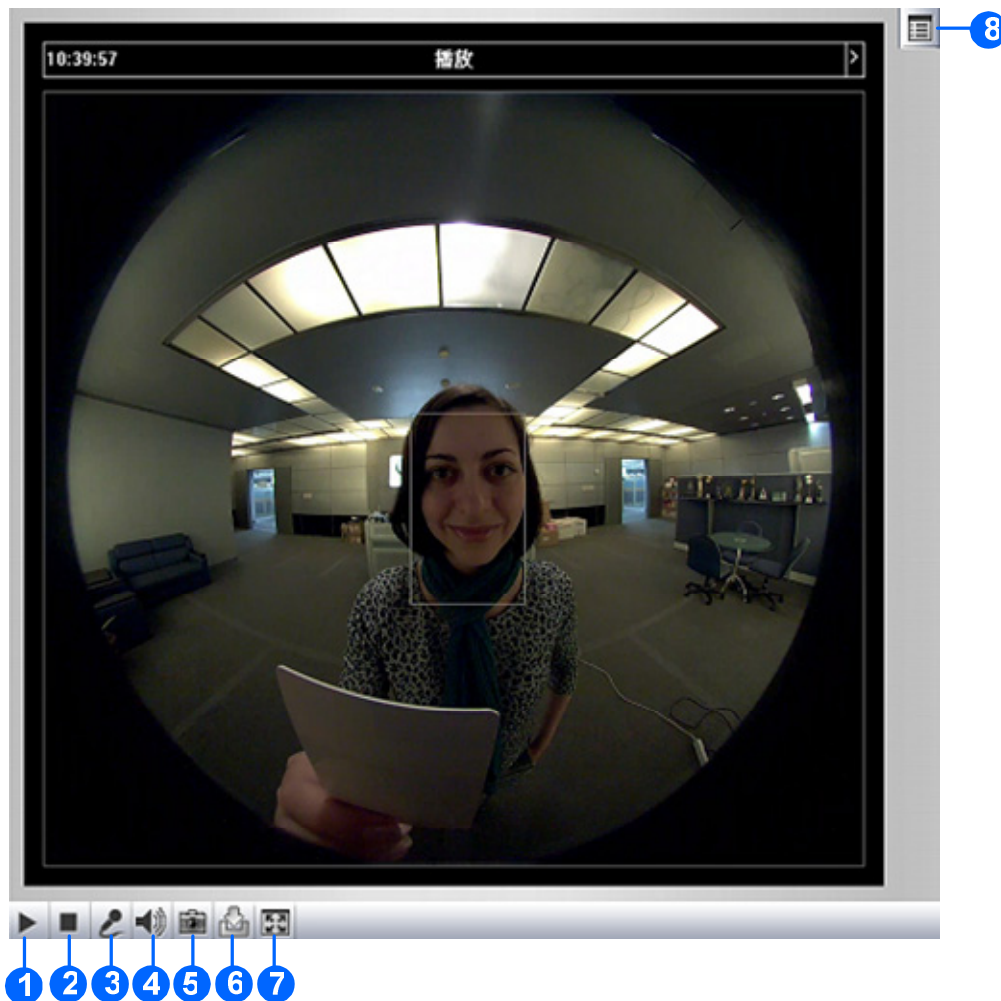

Figure 4-3
1. Click the **Snapshot** button (No. 5, Figure 4-3). The Save As dialog box appears.
1. Click the **File Save** button (No. 6, Figure 4-3). The Save As dialog box appears.
4. To stop recording, click the **Stop** button (No. 2, Figure 4-3).
To configure this function, click the **Show System Menu** button (No. 8, Figure 4-3), and select **Alarm Notify**. This dialog box appears.
Click the **Show System Menu** button (No. 8, Figure 4-3), and select **Video and Audio Configuration**.
You can upgrade firmware over the network in Remote Configuration. Click the **Show System Menu** button (No. 8, Figure 4-3), and select **Remote Config**. The Remote Config dialog box will appear.
To display the camera name on the image, click the **Show System Menu** button (No. 8, Figure 4-3), and select **Show Camera Name**.